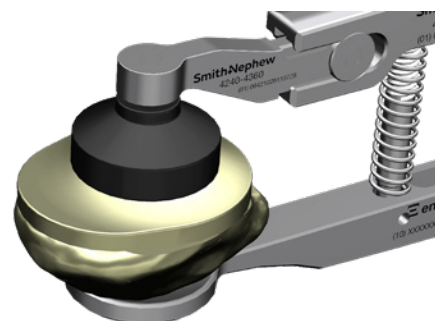

Figure 54
4. Clamp the patellar implant into the bone and remove the extruded cement (Figure 54).